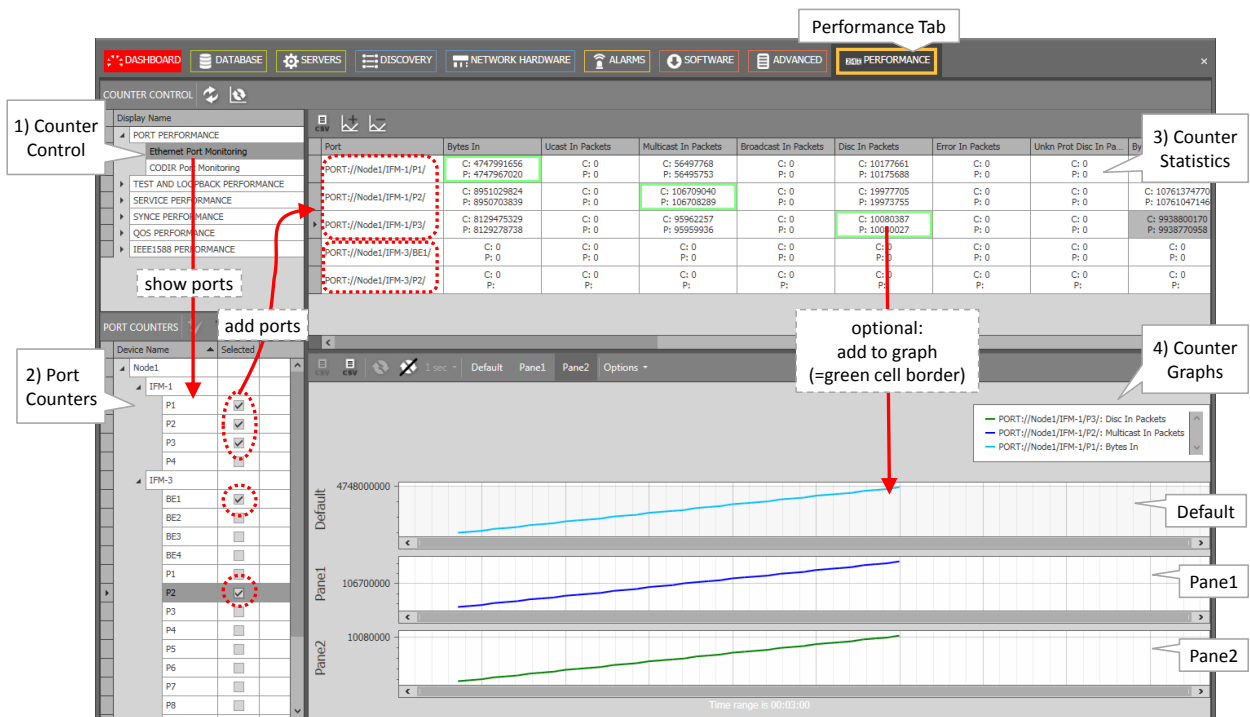

Figure 184 Ethernet Port Monitoring
2. Click Ethernet Port Monitoring, see Figure 184;